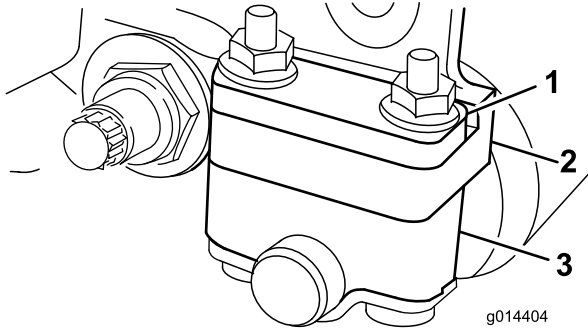
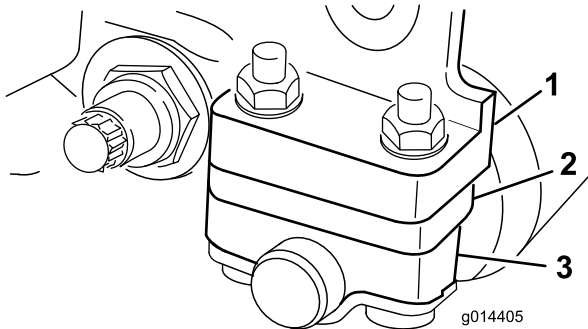

Figure 12
Figure 13
1. Adjust the rear roller brackets (Figure 12 or Figure 13) to the low or high position depending on the desired height of cut range.
Position the spacer above the sideplate mounting flange (factory setting) when height of cut settings range from 1.6 to 6 mm (1/16 to 1/4 inch) (Figure 12).
Position the spacer below the sideplate mounting flange when height of cut settings range from 3 to 25 mm (1/8 to 1 inch) (Figure 13).